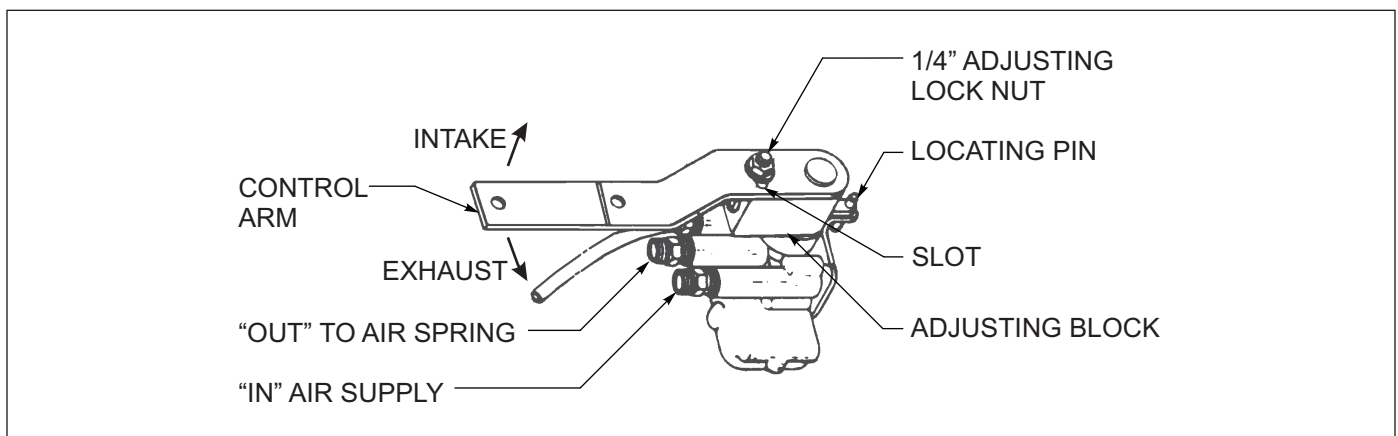

Figure 4-7: Air Ride Height Adjustment
2. Disconnect linkage at the control arm and raise control arm to the "up" position, raising the trailer until a block can be placed between axle tube and undercarriage frame (See Figure 4-7.)
6. Loosen the 1/4" adjusting lock nut located on the adjusting block, allowing the control arm to move approximately 1 inch. Move the adjusting block until holes align, then insert locating pin (See Figure 4-7.)